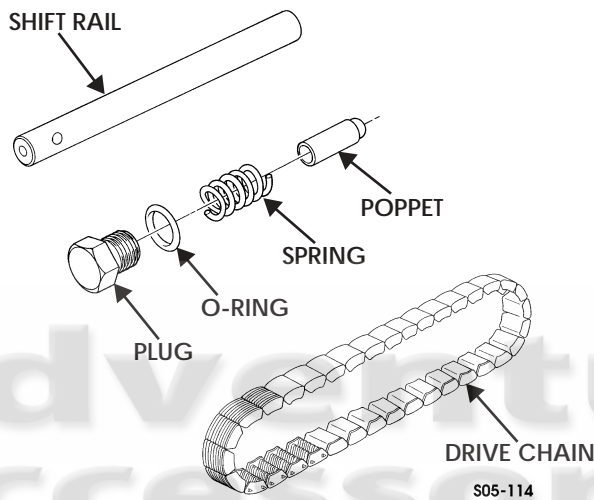

Figure 5-167: Drive Chain
1. Inspect shift rail for bends, cracks, and grooving. Replace if damaged (Figure 5-167).